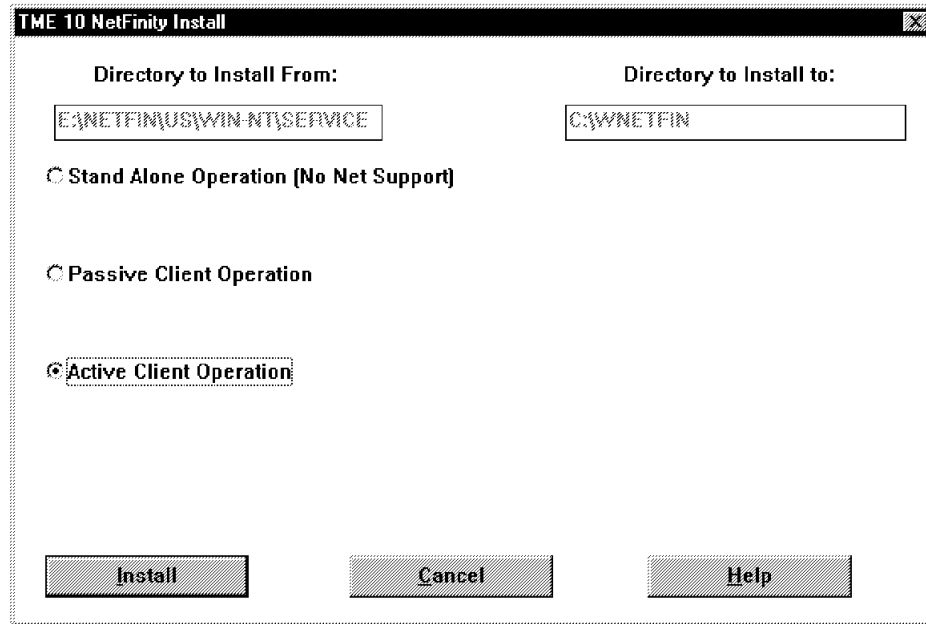

Figure 82. Choice of TME 10 NetFinity Client
4. After you have defined the source and target drives, define the type of TME 10 NetFinity client you want to install. There are different types of clients that can be installed. Figure 82 on page 109 shows the installation options.
5. The following are the different types of clients that you can install. Figure 82 depicts what the options are.